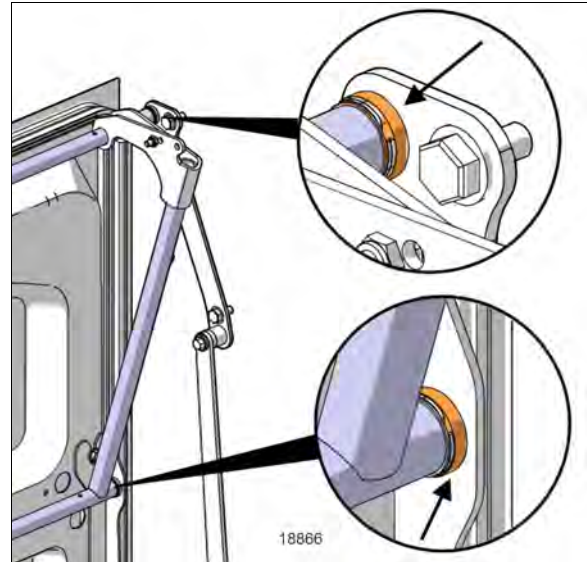

FIGURE 114: LATERAL ADJUSTMENT
8. Center door in the opening using the retaining rings. Adjust the lateral position by adding or removing retaining rings in the location shown in Figure 114.